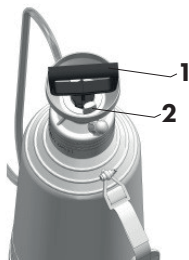
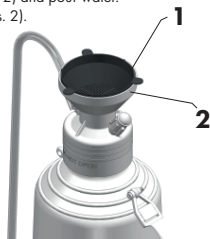

Fig. 4b
Fig. 5
Unscrew the pump from the head – to do so, lock the piston rod (Fig. 4b/pos. 1) in the cylinder holders (Fig. 4b/pos. 2). When unscrewing the pump, hold the piston rod in hand (Fig. 4b/pos. 1), and turn it anticlockwise.
PL Insert the strainer (Fig. 5/pos. 1) into the head socket (Fig. 5/pos. 2) and pour water.
EN Remove the sieve (Fig. 5/pos. 1) from the head socket (Fig. 5/pos. 2).
Insert the strainer (Fig. 5/pos. 1) into the head socket (Fig. 5/pos. 2) and pour in the working liquid.
Remove the sieve (Fig. 5/pos. 1) from the head socket (Fig. 5/pos. 2). Screw the pump (Fig. 1/pos. 3) into the head (Fig. 1/pos. 2). To this end, lock the pump's piston rod (Fig. 4b/pos. 1) in the cylinder holders (Fig. 4b/pos. 2). Remember to keep the connection tight. When locked this way, the piston rod can be used as a handle for transporting.